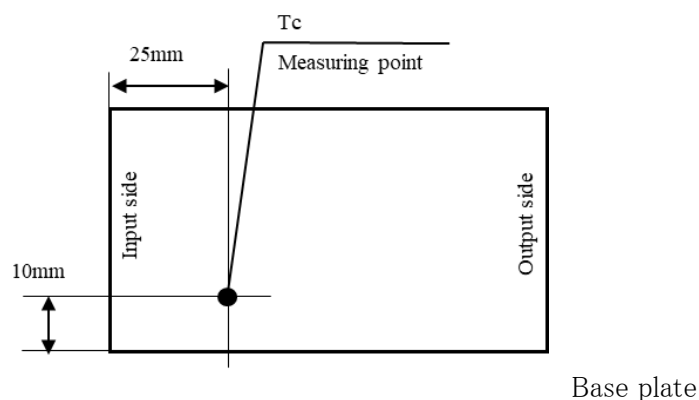

Fig.1.1 Measuring point of aluminum base plate temperature
- (1) Input :DC 200 ~ 435 [V]
- (2) Output :Rated output
- (3) Mounting method :As shown in Fig.1.1